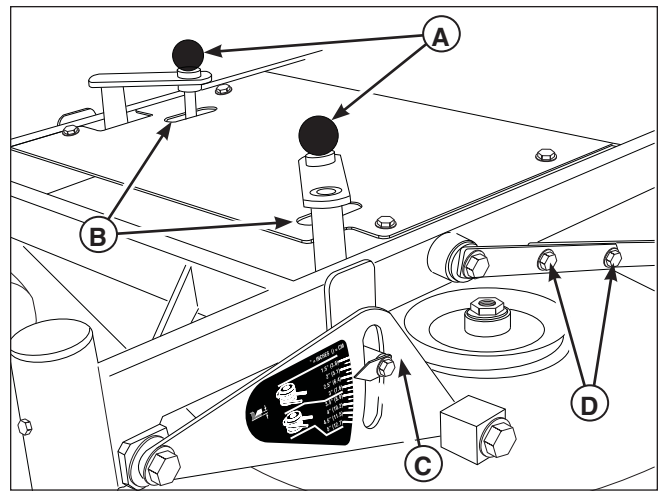

Figure 28. Remove the Cutter Deck Guard
2. Pull the cutting height adjustment handle (A, Figure 28) up and out of the handle lock position (B) and crank the handle **clockwise** and adjust the deck to the 3" (7,6 cm) position.